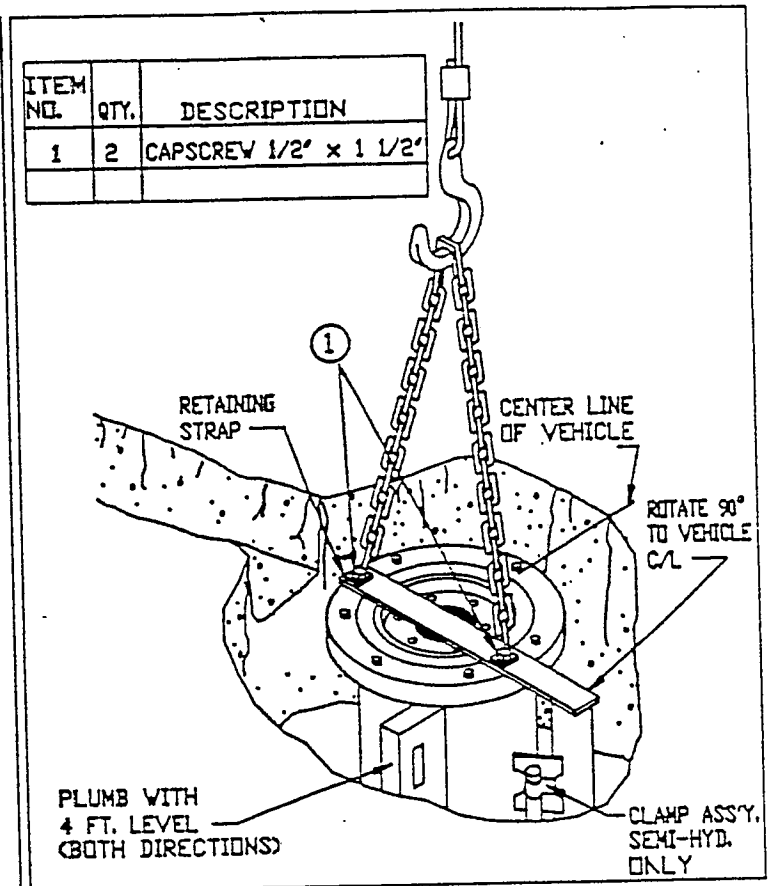
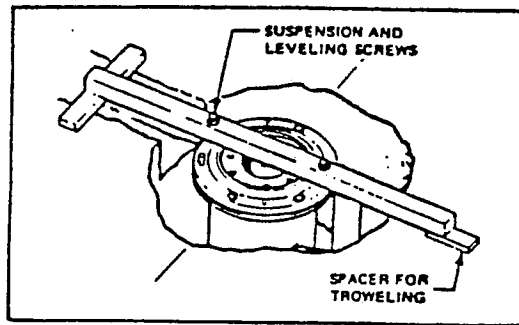
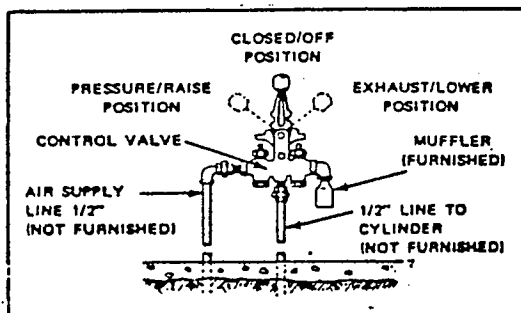

Fig. 2 Tube and Plunger Lowering
Fig. 3 Alternate Lowering and Leveling
Fig. 4 Semi Hyd. Controls and Operation
1. For best balance of tube and plunger while lowering into excavation, it is recommended to remove the two 1/2" x 1 1/2" long cap screws (item 1 Fig. 2) attach a sling chain across top of strap and replace same two cap screws (longer cap screws and washers may be required) thru chain and same two holes in strap. Assembly may be lowered by other methods, such as wrapping around strap, or attaching to any of the other
holes in top of assembly, but both capscrews (item 1 Fig. 2) must be attached as shown.
ALTERNATE METHOD: Refer to Figure 2, and remove the two 1/2" x 1 1/2" capscrews (item 1). Attach leveling support with 1/2" capscrews thru strap and into packing gland. Leveling support to be an angle iron, 2" x 4" etc. (procured locally). See Figure 3, and follow steps 2, 3 & 4.
5a. Semi-Hydraulic Lifts: Remove bolt and clamp holding air line to side of casing (Ref. Figure 2). Discard pipe cap from top of air line and attach swing joint (not furnished) onto line by pulling line out for clearance. Replace clamp and bolt and connect piping from lift and compressor to the three position air control valve. See Figure 4.